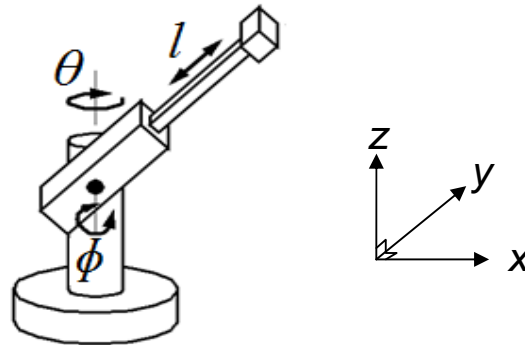

Figure Q4[a]
- (ii) From Figure Q4[a], by using inverse kinematics, convert all the Cartesian-coordinates system's axes to the robot's own set of coordinates. Given the current position of the end effector is (150 mm, 245 mm, 100 mm).